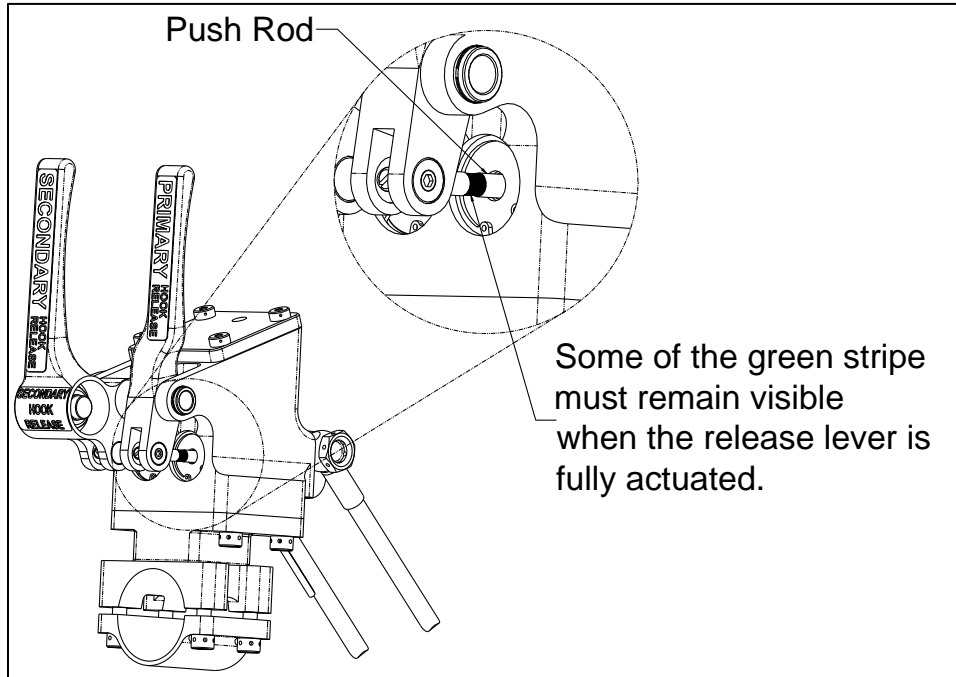

Figure 2.2 Checking System for Air
7. Check the BQRS' hydraulic release systems for excess air in the lines. Pull the primary release lever firmly until it bottoms out. Check the push rod position (see Figure 2.2). If some of the green ring on the push rod is visible, the system is ready for use. If none of the green ring is visible, the system needs to be bled. Repeat with the secondary release lever.